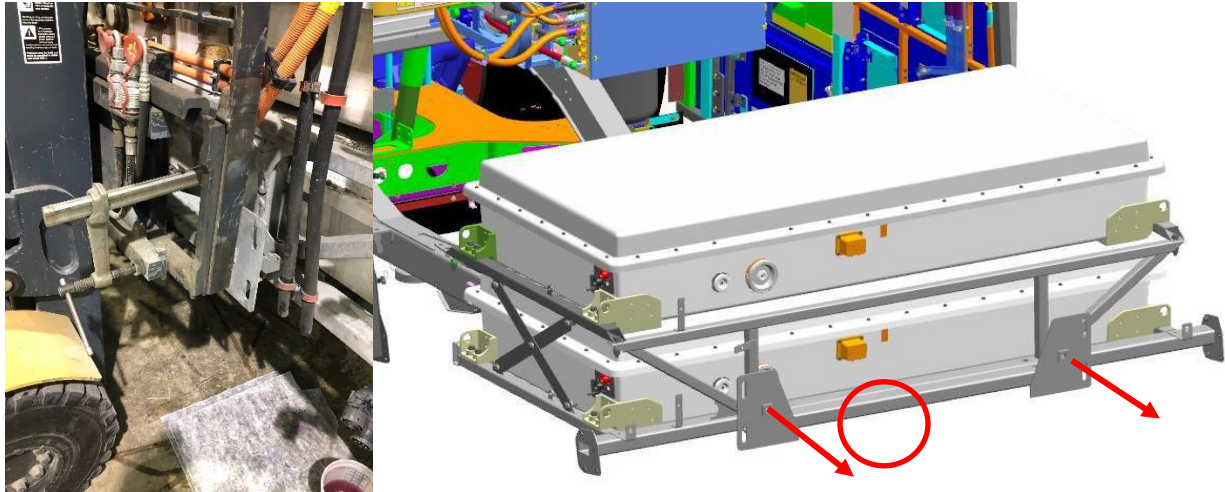

Figure 11: Rear ESS pack assembly removed from the bus reference.
19. Support ESS packs with forklift and remove ESS packs assembly from the bus. See figure 11.